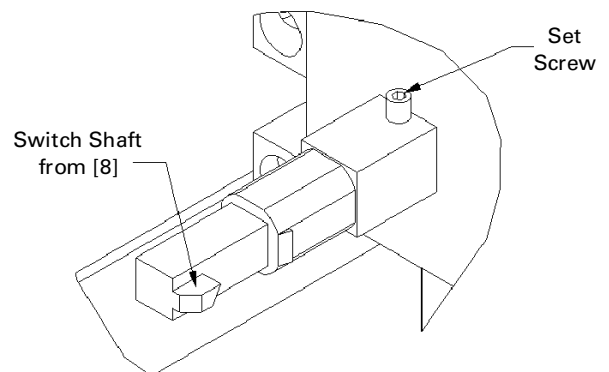

Figure 10. Installing the handle shaft.
6. **Install the handle shaft from item [8].** Insert the switch shaft onto the disconnect as shown in Figure 10. The set screw must be pointing upward (this ensures that the disconnect is in the OFF position). Install the switch shaft so that the switch shaft protrusion is pointing toward the right.